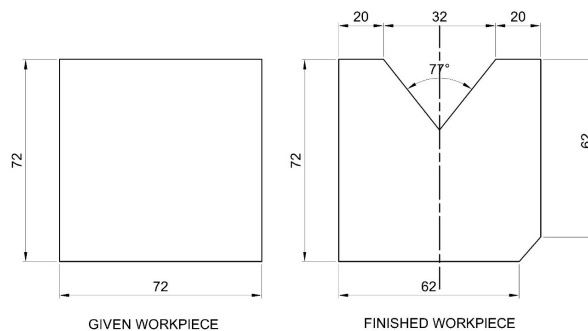

Figure 8.1 V-groove operation
8.1 Preparation of V-groove operation as shown in Figure 8.1